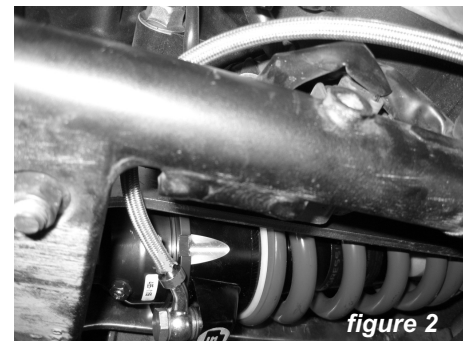

figure 2
- As you mount the shock, feed the Remote Adjustable Pre-Load adjuster through the opening behind where the horn was located on the left side of the bike, and behind the wiring harness (may require wire-tie removal) - see figures 2 and 3. Do not loosen or attempt to rotate the line between the shock and the adjuster.